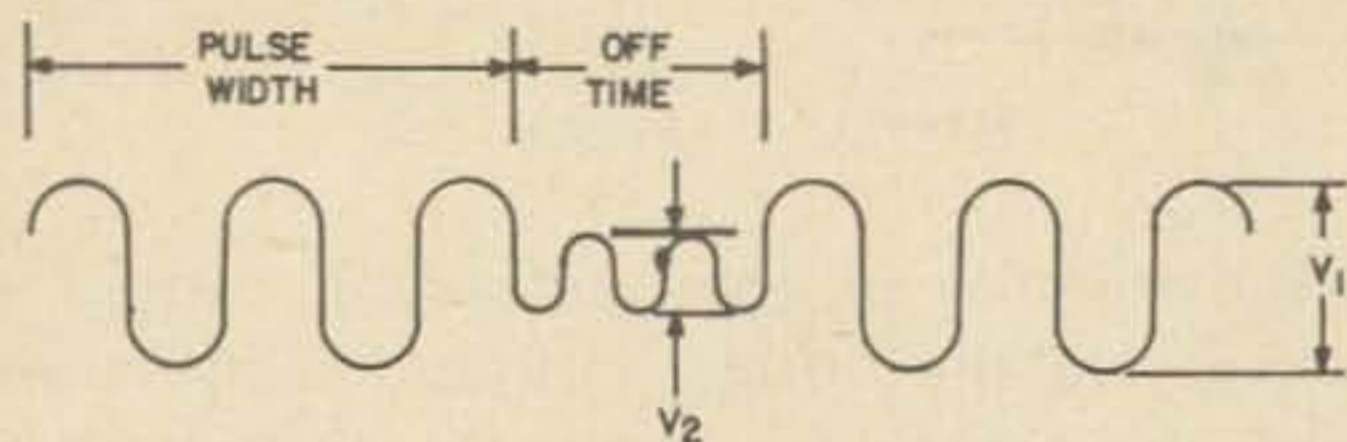

Fig. 1.  $V_1$  is the "on" voltage;  $V_2$  is the "off" (leakage) voltage.
**Fig. 1.** The station control unit. RR1 changes bands each time the paddle switch is pushed to the left, RR2 changes channel setup in either band when paddle switch is pushed to the right. Lamps in lower LH corner of the schematic indicate which of four channel tuning schedules is in effect.
What's a burst generator good for you say? It's ideal for pulse testing of transistors at high peak power levels, pulse modulating transmitters on UHF or SHF or for other experimental work (or just for fun). Fig. 1 shows an *rf* burst.  $V_1$  is the sinusoidal "on" voltage and  $V_2$  is the off (leakage) voltage. I call the ratio  $V_1:V_2$ ,  $R_v$  (for voltage ratio). Ideally if the sine
This nice article would have been more attractive if some of it had not been inadvertently omitted. If you are thinking about building this little instrument, turn to our October issue, page 82. First error appears in Fig. 1.